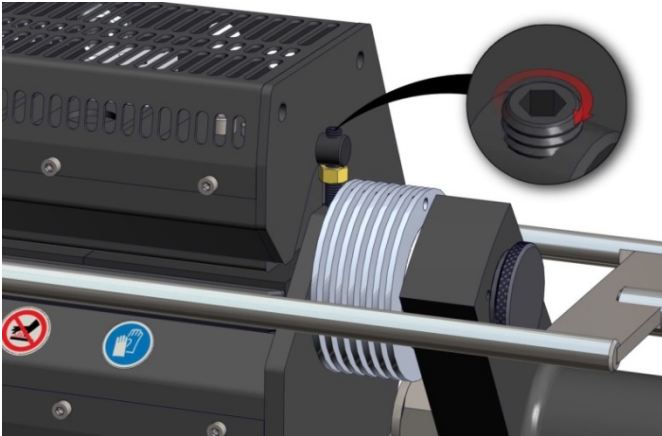

Figure 6.2.1
3. Every 6 months or when required, verify the position of the upper heating block in relation to the top surface of the tooling jaws installed onto the lower heating block. The upper heating block must not touch the sand specimen or tooling. The distance between the upper heating block and the sand specimen/tooling should be approximately $3/32''$ (2.5 mm). If required, use the adjusting screw located on the right side of the Heating Block Assembly (Figure 6.2.1) to adjust the location of the upper heating block relative to the lower heating block. (If performing the alternate test without the upper heating block, this step does not apply.)